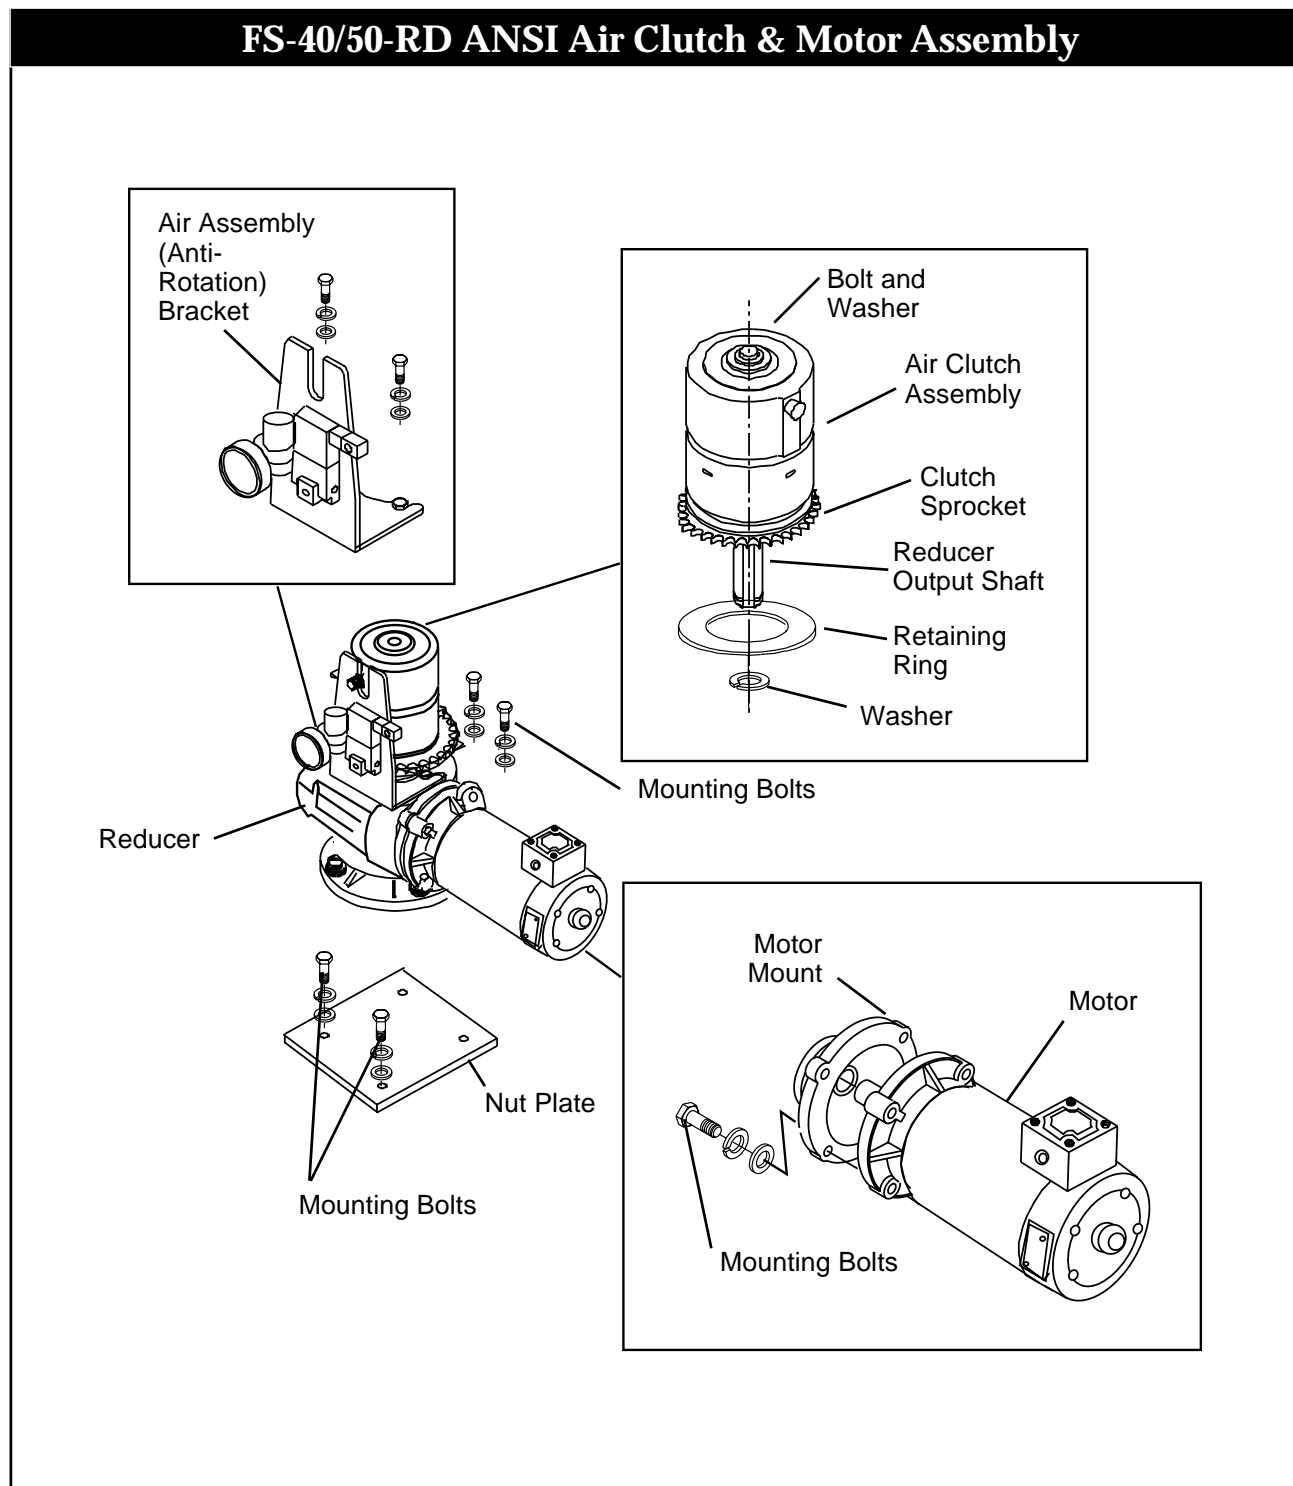

Figure 5-2. FS-40/50-RD Feeder Air Clutch & Motor Assembly Exploded View
Step 1—Gain Access. Disconnect power and air. Remove the frame/safety guard giving best access to the motor and gear reducer. Loosen mounting bolts and slide air assembly bracket off (see Figure 5-2).
Step 6—Assemble Output Shaft/Air Clutch. The output shaft on the metric speed reducer is removable and is available as a separate kit. If replacement is required, clean both contact surfaces before assembly and apply any appropriate anti-seize compound to avoid oxidation (rust) and possible seizing of parts, refer to manufacturer's technical information sheets that correspond with the output shaft. Slide the air clutch assembly down onto the reducer output shaft (see Figure 5-2) until it bottoms out against the shoulder. Tighten setscrew. The speed reducer used in the metric FS-40-RD or FS-50-RD feeder is lubricated for life with synthetic lubricant and requires no filling before use.
Step 3—Begin Air Clutch Replacement. Observe the order of components before replacing the unit (see Figure 5-2). Disconnect air supply, anti-rotation bracket, shaft retaining bolt and setscrew.